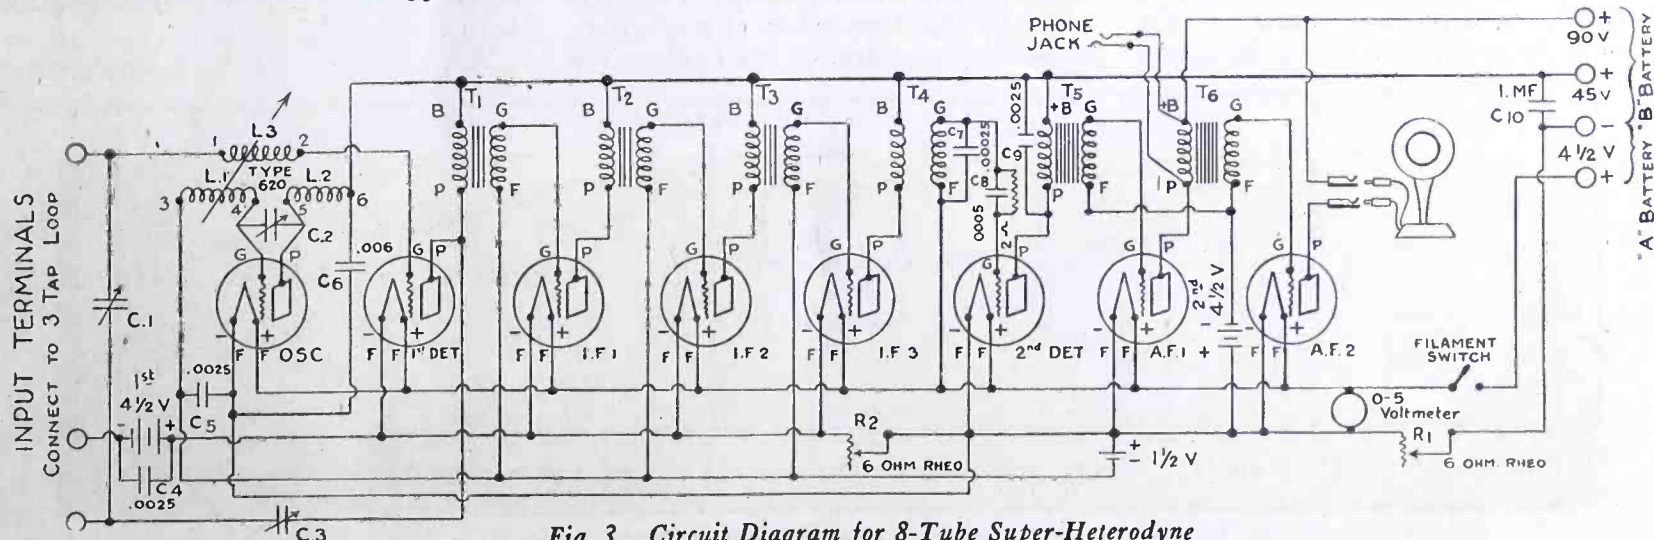

Fig. 3. Circuit Diagram for 8-Tube Super-Heterodyne
FIG. 3 shows the circuit. It is readily analyzed in four sections: (1) The local oscillator for generating the heterodyne frequency and the preliminary detector in which the incoming wave and the locally generated oscillations are mixed (tubes marked OSC and 1st Det. with associated circuits); (2) three stages of 45,000 cycle intermediate frequency amplification (tubes IF_1 , IF_2 , IF_3 and associated transformers T_1 , T_2 , T_3 , T_4); (3) the final detector (marked 2nd Det.); and (4) two stages of audio frequency amplification (tubes AF_1 and AF_2 and associated transformers T_5 , T_6).